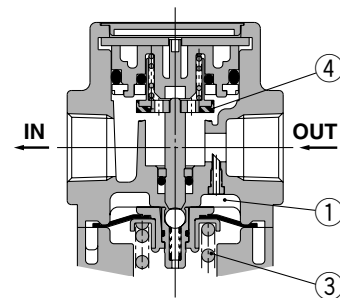

Figure 2 Back flow
When the inlet pressure is higher than the regulating pressure, check valve ② closes and operates as a normal regulator (Figure 1). When the inlet pressure is shut off and released, check valve ② opens and the pressure in diaphragm chamber ① is released into the inlet side (Figure 2). This lowers the pressure in the diaphragm chamber ① and the force generated by pressure regulator spring ③ lifts the diaphragm. Valve ④ opens through the stem, and the outlet pressure is released to the inlet side (Figure 2).